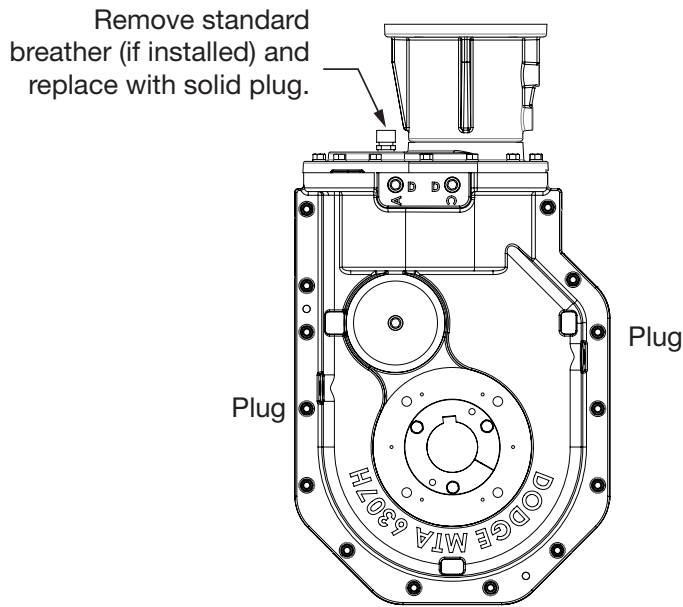

Figure 3 - Installing Position D Breather Kit top oil plug replacement
2. Replace top oil plug on reducer with assembled vertical breather kit. (See Figure 3)